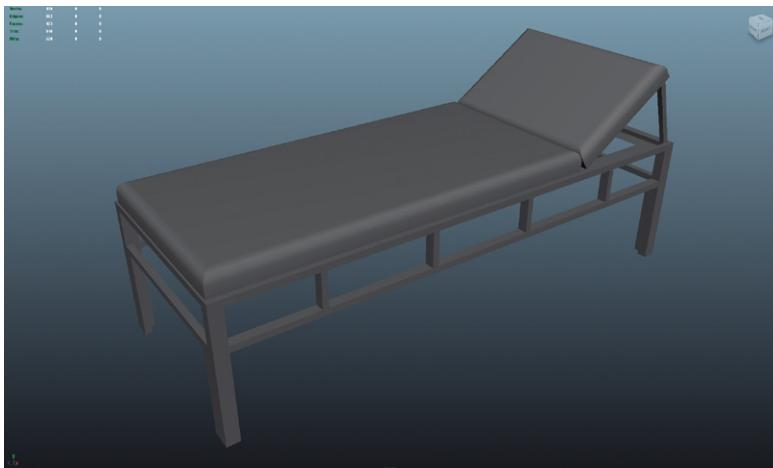

FIG 3.67 Finished bed.
Step 27: Position the top cushion shape to be reclined. The easiest way to do this is to move its manipulator to the bottom front edge of the shape, then with this new axis of rotation, use the Rotate Tool to rotate the shape up (Fig. 3.67). Add further details as desired (i.e., brace to hold up cushion).